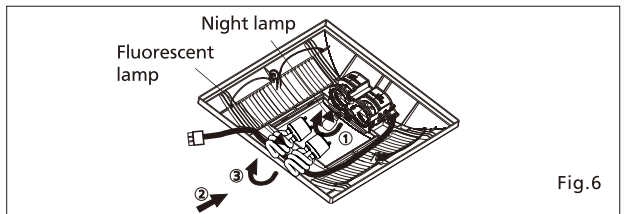

Fig.6
9. Install the night lamp and fluorescent lamps. (Fig.6)
Install the fluorescent lamps (Maxlite MLS13GU35 13W) as shown in step ② and step ③ of Fig. 6 (page 7).